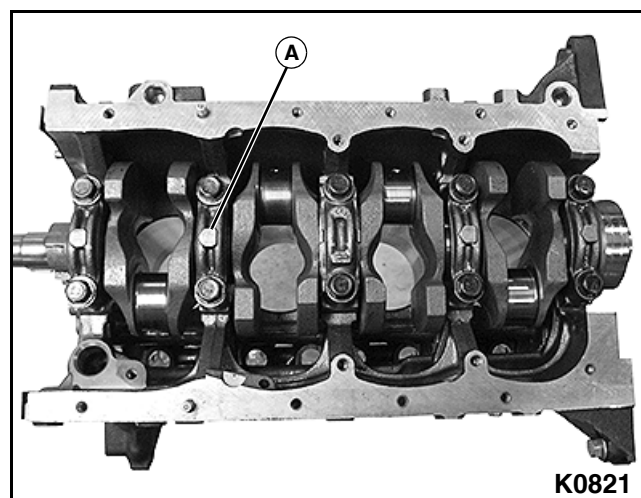

Figure 3-222
1. Check main bearing caps for arrows (A) cast in main bearing cap, and numbers stamped on cap and oil pan rail. If there are no numbers, stamp corresponding numbers on cap and oil pan rail to ensure correct placement of bearing caps during reassembly. **See Figure 3-222.**